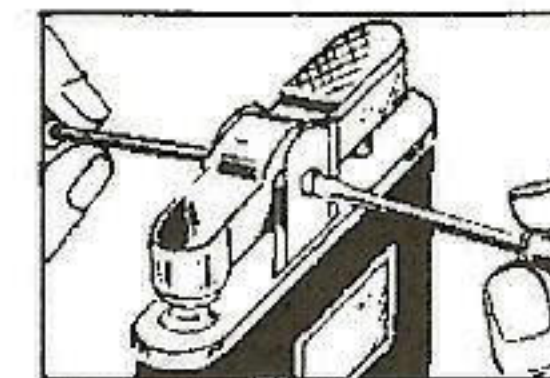
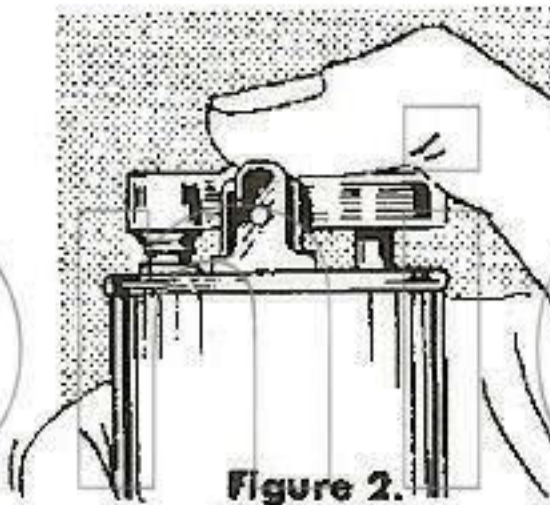

Figure 1.
Figure 2.
2. Using two screwdrivers, if necessary, remove male screw RA-750 from fulcrum RS-600. (Fig. 1)
3. Maintaining a steady thumb pressure on the plunger RS-300 assembly (Fig. 1), push the fulcrum RS-600 through the lighter. The pressure is necessary because the plunger spring RS-100 is exerting pressure upwards against the plunger, even though it cannot be seen at this stage. (Fig. 2)